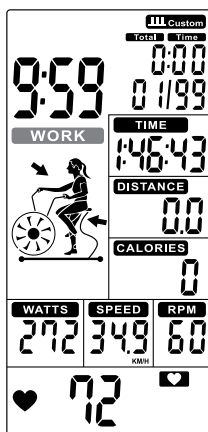

Figure 36
- ⑤ Cycle time counts down from the preset total time and **WORK** flashes once per second. Then TOTAL TIME, DISTANCE, CALORIES, WATTS, SPEED & RPM start calculating, counting displays '01/XX'(Figure 36).